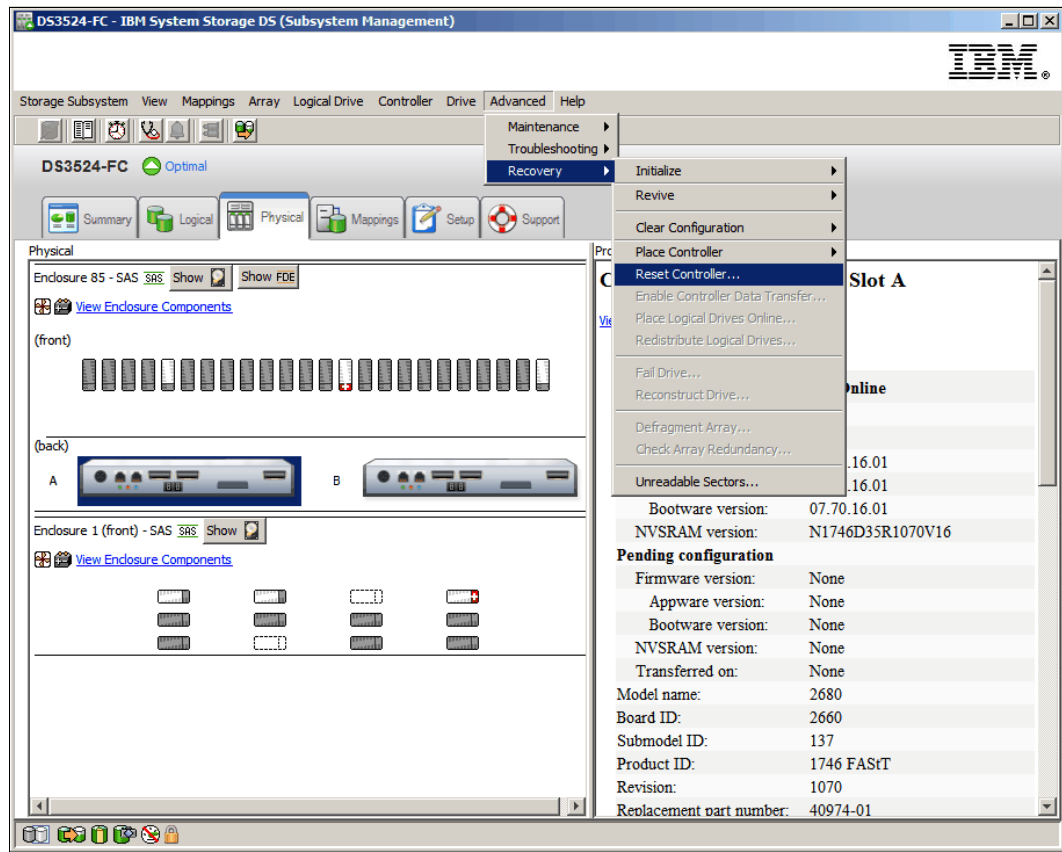

Figure 14-138 Reset Controller
1. Select the controller in the Physical tab of the DS Storage Manager (Subsystem Management) window and then click **Advanced** → **Recovery** → **Reset Controller** as shown in Figure 14-138 on page 423.